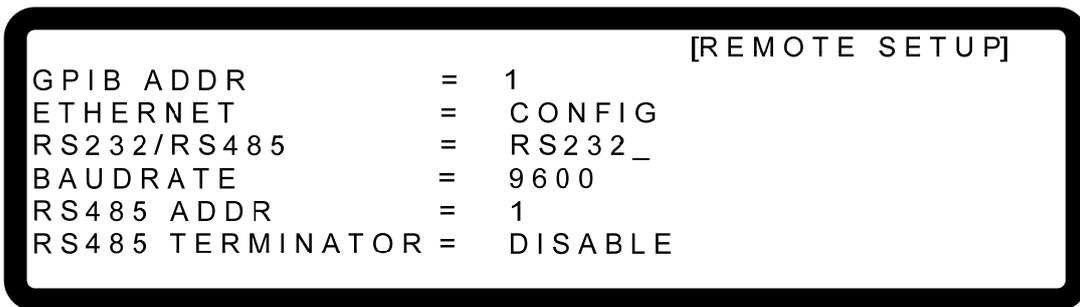

Figure 3-124
1. Use "←↑", "↓→" keys to move the cursor to the column of RS232/RS485 as Figure 3-124 shows.